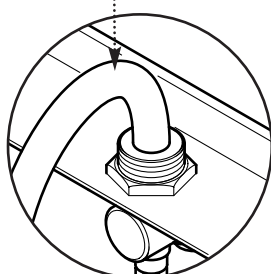

Fig. 15
1. Insert a tube into the valve outlet furthest from the filling loop (Fig. 15).